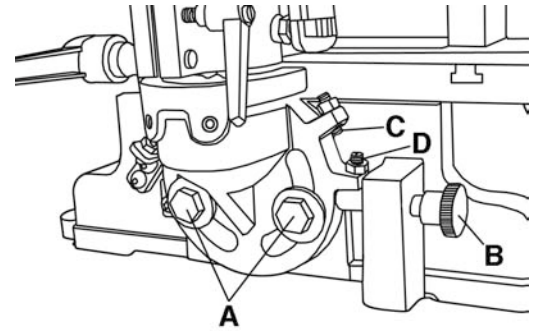
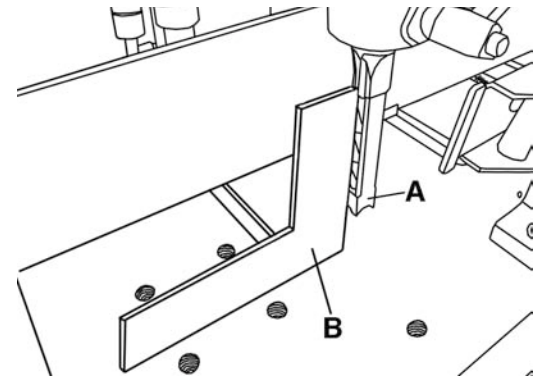
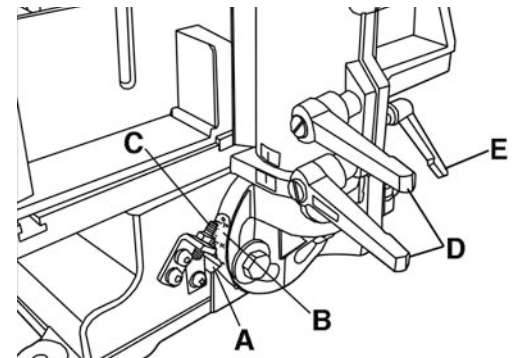

Figure 8
Figure 9
Figure 10
The head can be tilted from 0° to 30° toward the right or the left. To tilt the head, first begin by holding the head with one hand. Then with the other hand, loosen both head fixing hex. bolts (A) Fig.8 using the supplied 17mm open ended wrench.
Then pull out the stop pin (B) Fig.8 and move the head to the desired angle. Line up the angle scale pointer (A) Fig.9 with the desired angle on the scale (B) Fig.9 and retighten both head fixing hex. bolts.
If you desire to quickly adjust the head angle to 30°, for left tilt simply push the stop pin back in until it comes into contact with positive stop set screw (C) Fig.8, for right tilts simply swing the head to the right until the head casting comes in contact with the right side positive stop set screw (C) Fig.9. If one or both positive stops do not give you a perfect 30° angle, they can be adjusted, see section below for instructions.
The positive stop set screws (C,D-Fig.8 and C-Fig.10) are adjusted properly at the factory, but after time, if you find that the angle is slightly off, an adjustment may be necessary.
To adjust the 0° positive stop set screw (D) Fig.8, make sure the stop pin (B) is positioned below the 0° positive stop set screw as shown in Fig.8. Install a chisel and bit into the head following the instructions in this manual.
Place a square (B) Fig.9 on the sliding table and against the chisel (A) Fig.9 and check if the chisel is perfectly perpendicular to the square. If an adjustment is needed, loosen both head fixing hex. bolts (A) Fig.8 using the supplied 17mm open ended wrench, tilt the head until the chisel is perfectly perpendicular and retighten both head fixing hex. bolts. Loosen the 0° positive stop hex. nut, and reposition the set screw against the stop pin and retighten the hex. nut.
To adjust the 30° positive stop set screws (C) Fig.8 and Fig.10, use a 30° square or a protractor and follow the same procedures above.
First loosen the two large lock handles (D) Fig.10, then tighten the small lock handle (E) to widen the gap in the column sleeve casting. Swivel the head to the desired angle, loosen the small lock handle and tighten the two large lock handles to lock the head in position.